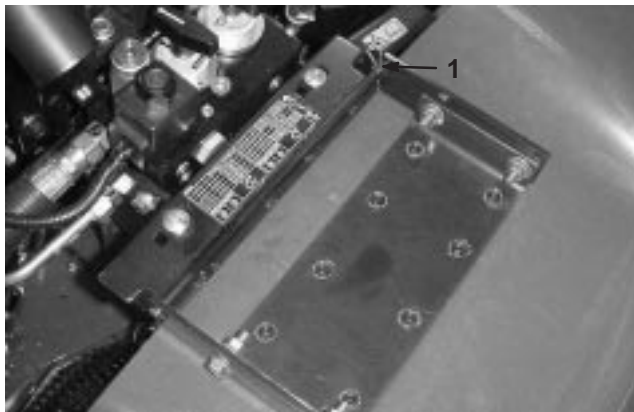

Figure 45
2. Remove the cotter pin securing the hood pivot to the mounting brackets (Fig. 45).